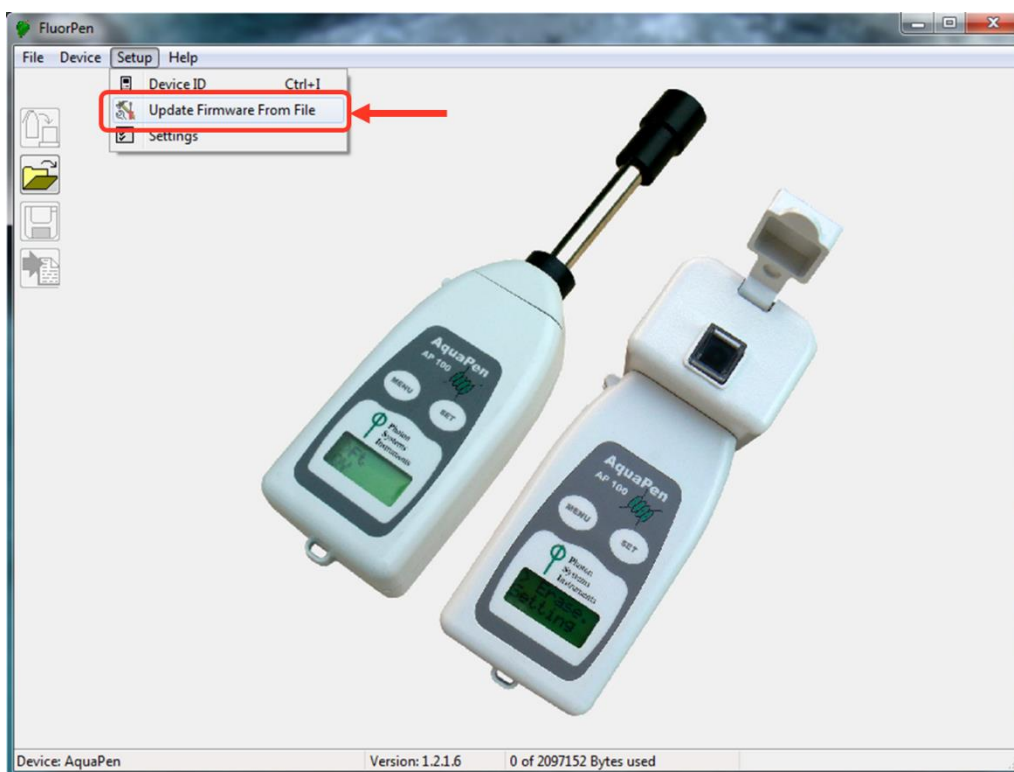

Fig. 18 Firmware Update.
- Select: **Setup > Update Firmware From File** (Fig. 18).